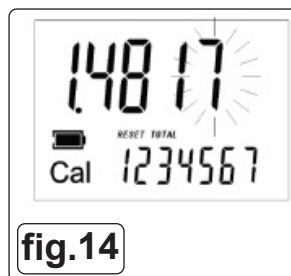

fig.14
- 5.7.4. Press RESET to set digit values (from right to left) (fig.14).